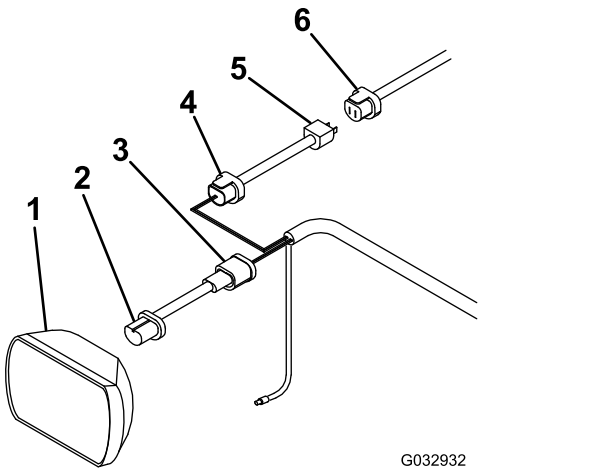

Figure 23
1. Disconnect the wire harness plug from the back of the left vehicle headlight (Figure 23).
2. Connect the headlight adapter to the back of the left vehicle headlight (Figure 23).
3. Connect the black plug from the headlight adapter to the long wire harness (Figure 23).
4. Connect the blue plug from the headlight adapter to the blue plug on the long wire harness (Figure 23).
5. Connect the free end of the headlight adapter to the previously disconnected plug on the vehicle wire harness (Figure 23).